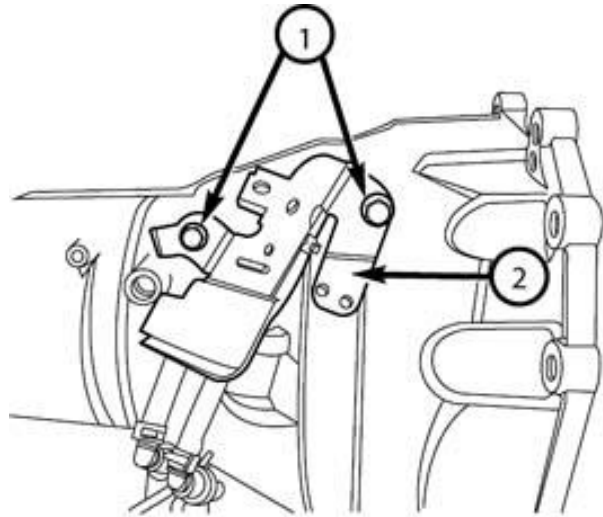

Figure 26 – Differential Pressure Sensor Bracket
- 63. Remove the Differential pressure sensor bracket (1) from the right side of the torque convertor housing (Figure 26).